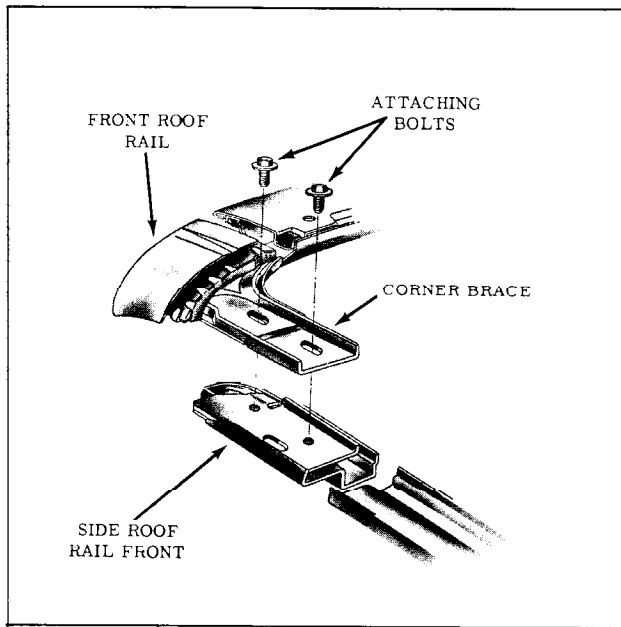

Fig. 15-81 Front Roof Rail Adjustment
2. Loosen corner brace attaching bolts and adjust front roof rail fore or aft as required. Repeat on opposite side if necessary. (Fig. 15-81)